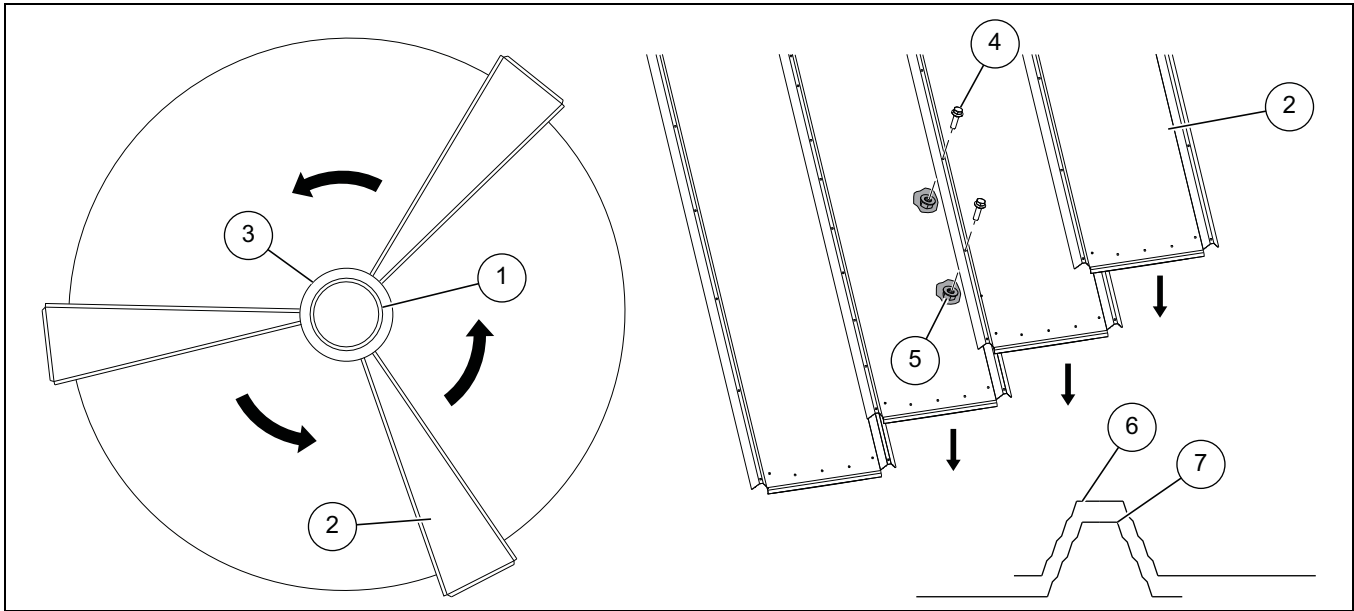

Figure 11B Roof Panels Installation Direction
2. Install three roof panels evenly spaced around the center collar (1) and install the roof sheets to the roof clips.
**NOTE: Do not tighten the bolts until the roof is completely assembled. Make sure to overlap the adjacent panels in *counterclockwise* direction as shown in Figure 11B.**